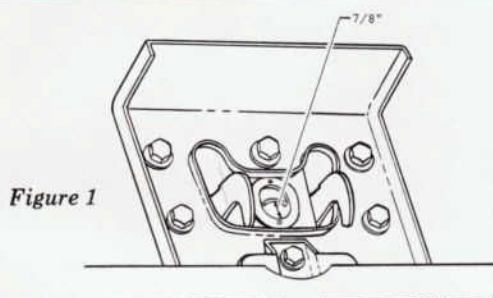

Figure 1
3. Inspect the dowel opening in the latch mechanism to assure that the dimension between the inside wall of the dowel guide and the lock trigger in the closed position is $\frac{7}{8}$ " maximum. See Figure 1.